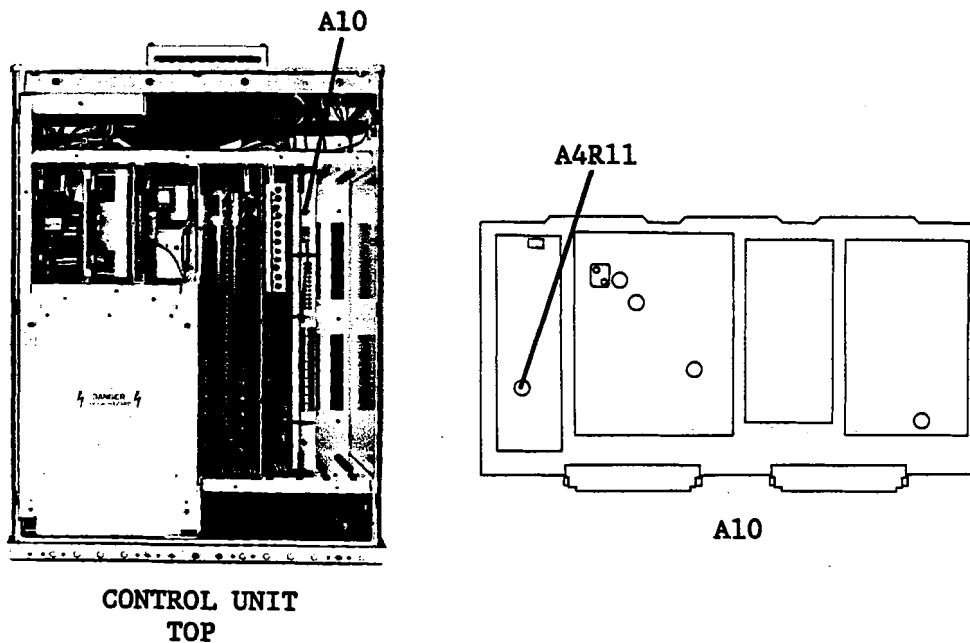

Figure 3-34. 80 MHz Reference Source Frequency Adjustment Locations
7. Adjust A10A6R12 (100 kHz NULL ADJ) until the 100 kHz sideband spurious signal level is minimum and < -80 dBc. Figure 3-34 (2) shows a correctly adjusted trace.